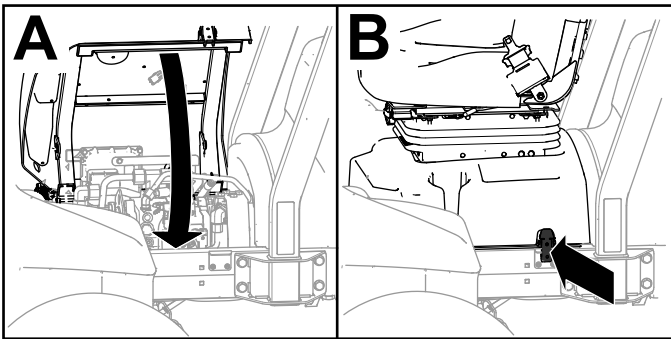

Figure 32
3. Rotate the seat and seat base closed (A of Figure 32).
4. Latch the base (B of Figure 32).